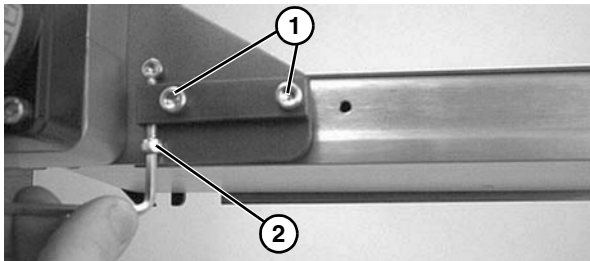

Figure 50
1. Loosen two (2) screws (**Figure 50, item 1**).
2. Loosen timing belt tensioner screw (**Figure 50, item 2**).